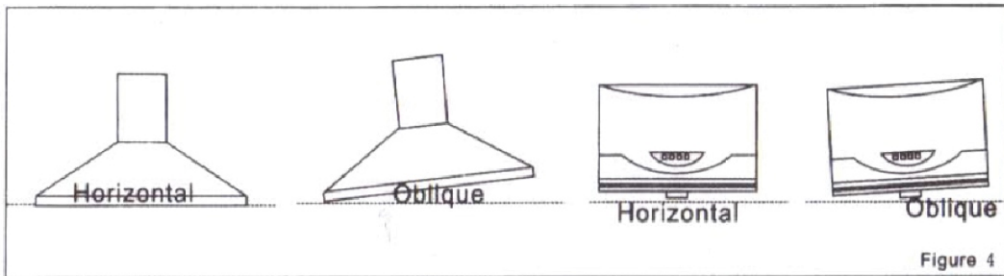

Figure 4
(1) The distance from the exit of the smoke pipe to the organism should not be too long. Make the radius of turn as large as possible. Make few curves, or the effect will not be so good.
(2) The exhaust duct should reach outdoor of the common smoke pipe. and the connector must be narrow. Please don't discharge the waste gas into hot flue.
4. Keeping the organism level (shown in figure 4)